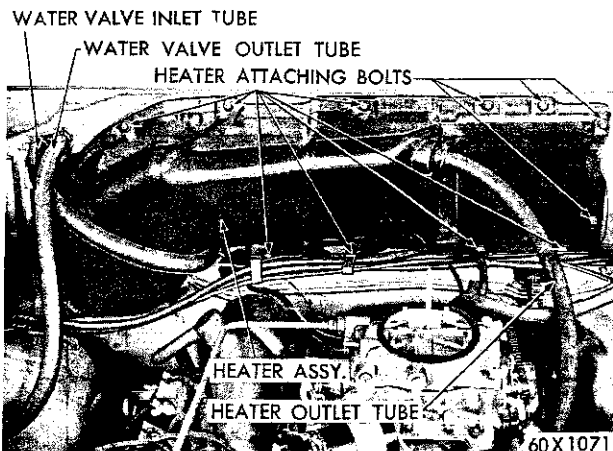

Fig. 15—Heater Removal
**Removal (Fig. 15)**
- (1) Disconnect the battery ground cable.
- (2) Disconnect the heater ground wire at the windshield wiper motor mounting bracket.
- (3) Disconnect the heater wires from the harness connectors.
- (4) Disconnect the vacuum hoses at each vacuum unit.
- (5) Remove the hoses from their attaching clips.
- (6) Remove the heater valve capillary coil from the opening in the heater housing (driver's compartment, passenger side).
- (7) Remove the clips from the housing.
- (8) Remove the three screws attaching the heater distribution duct to the dash panel. (One is located to the left of the vent door and to the right of the brake pedal bracket; one below the heater at the passenger side and one screw is located at the windshield wiper motor right link pivot).
- (9) Remove the housing and blower by pulling down and out of the driver's compartment.